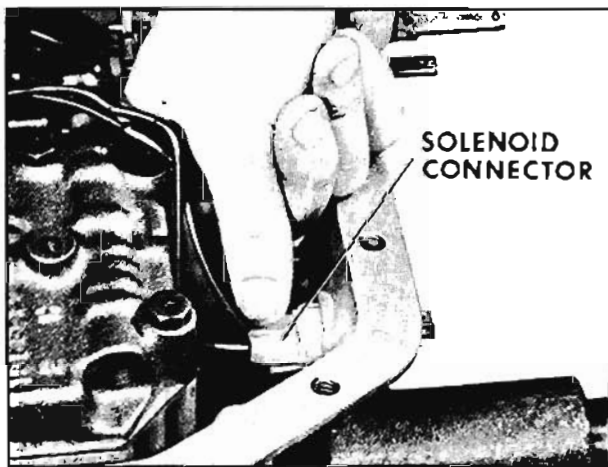

Fig. 6-467 Installing Solenoid Connector
11. Install solenoid connector to solenoid junction. (Fig. 6-467)